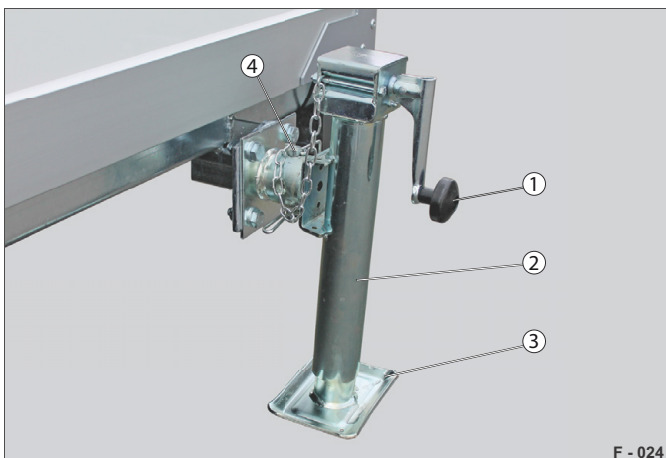

Fig. 35 Telescopic crank support with crank handle, support position
- ▶ Swivel down the support (Fig. 35 /2).